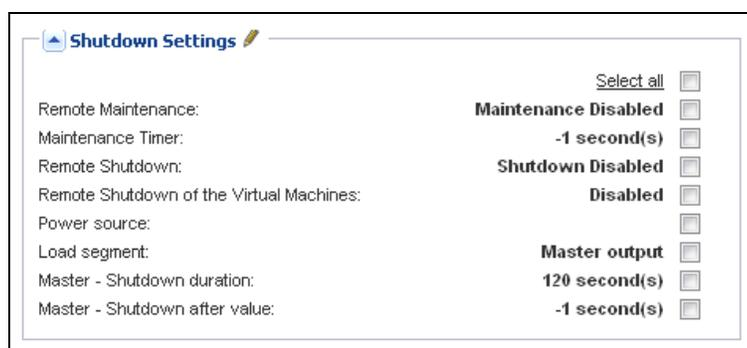

Figure 94. Example Shutdown Settings - Before Configuration
2. In the Shutdown Settings panel on the right side of the page, select the applicable checkboxes to configure the required parameters (see Figure 94 and Table 8).